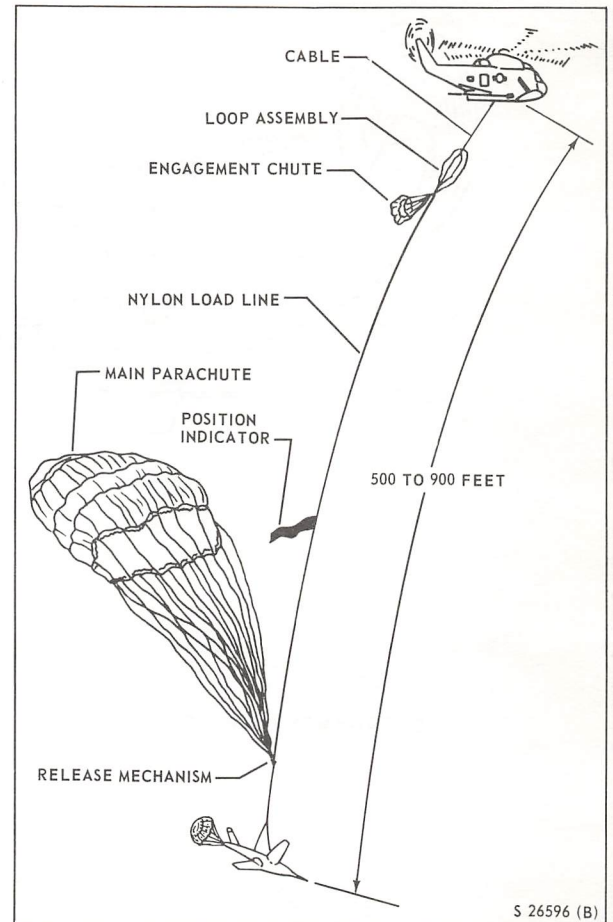
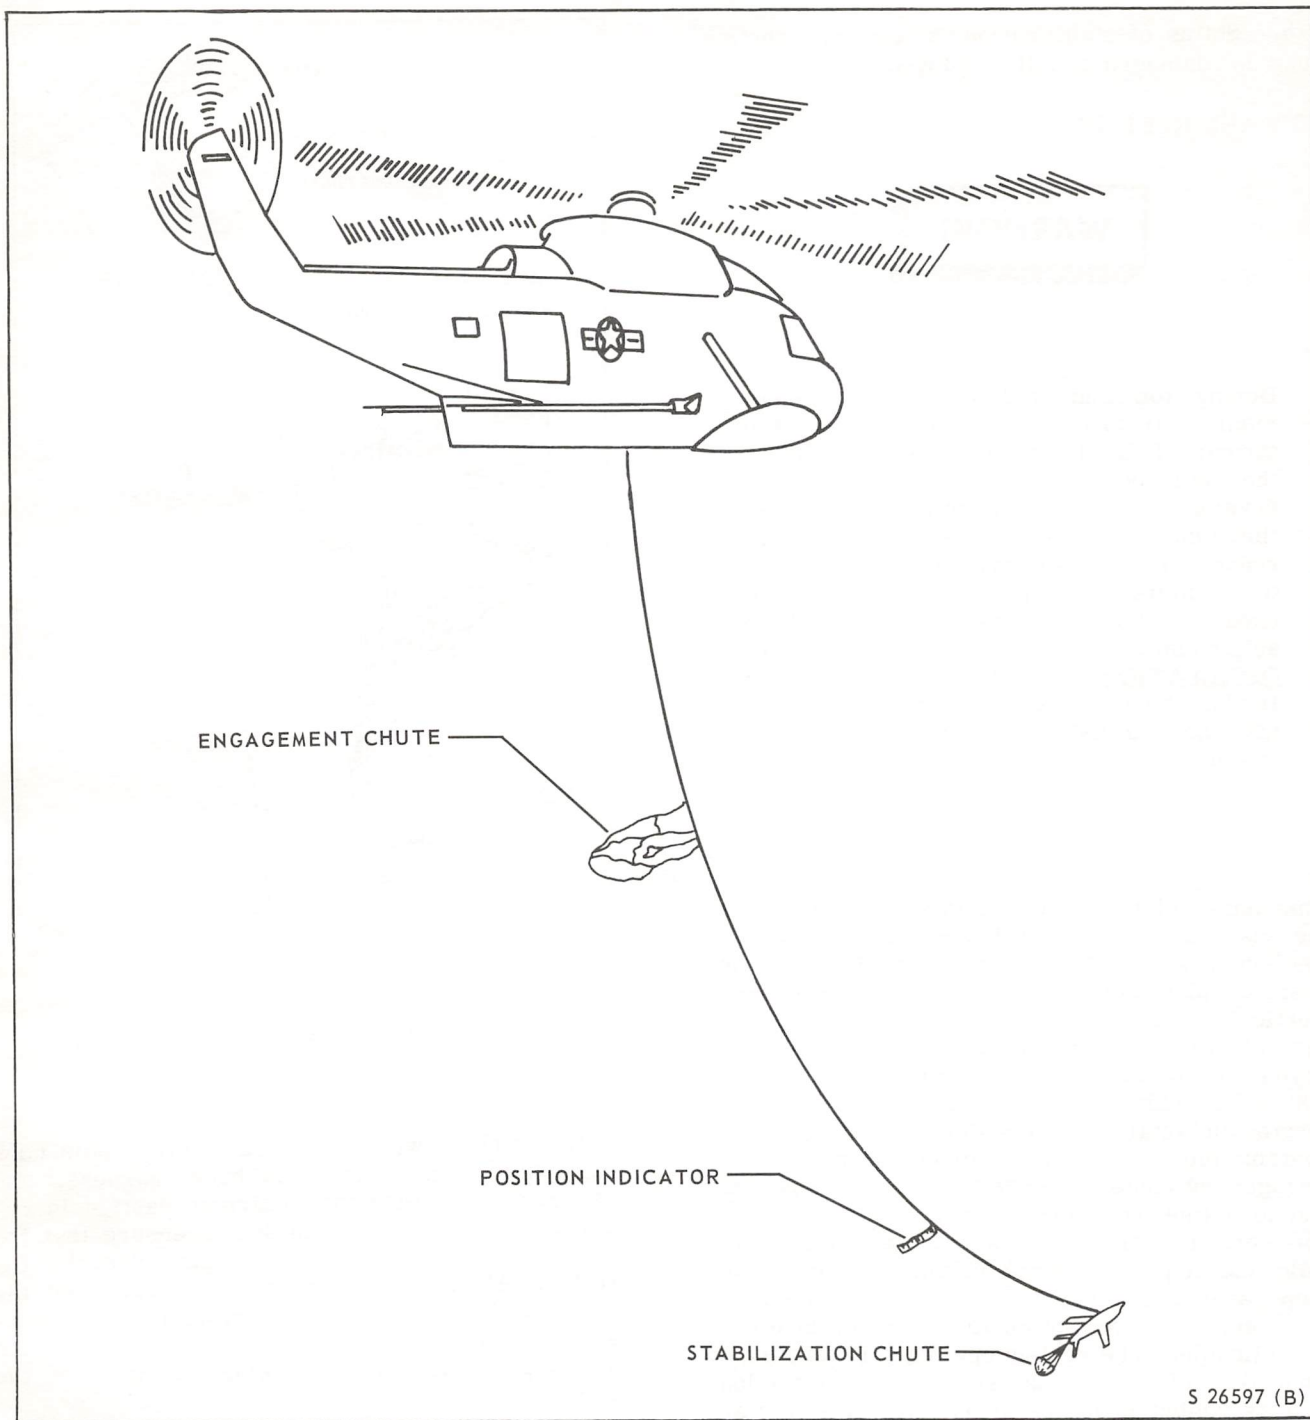

Figure 3-9. Typical Engagement
Figure 3-10. Swing-Through of Package After Engagement
**ENGAGEMENT.** As the engagement chute passes through the engagement window, one or more hooks can engage a load bearing member of the engagement parachute. When the crew announces chute contact, the pilot increases collective setting to desired torque. Normally, an airspeed loss and slight pitch-down attitude can be expected. The pilot should limit pitch-down to a maximum of 10 degrees. Additional power must be applied to control pitch-down and airspeed loss. If power application at time of catch is slow or erratic, pitch down can exceed 10 degrees. Extreme care should be used when limiting pitch down by cyclic control under these circumstances as distance between the rotor blades and tail pylon can become reduced. In addition, a desired power range of 40 to 45 percent torque should be smoothly applied and maintained at time of contact until after initial swing through to assist in minimizing pitch down, increasing blade/pylon separation, and avoiding unnecessary blade loading and stress. The force of engagement pulls the hooks and loop assembly free from the poles. The load induced by the captive package pulls line off the winch until the winch has decelerated smoothly to a stop. When tension on the load line reaches the apex tie, it is broken, and the nylon load line separates from the main canopy. The build-up of load line tension actuates the main canopy release mechanism and the main canopy falls away (see figure 3-9). The package may maneuver violently during initial acceleration and swing-through. The attached stabilization chute reduces the severity of the swing-through (see figure 3-10). Following the swing-through, the package will settle down into a tow position approximately 500 to 900 feet below the helicopter and is ready to be reeled in. Length of cable payout is affected by many factors; package weight, attitude, etc.